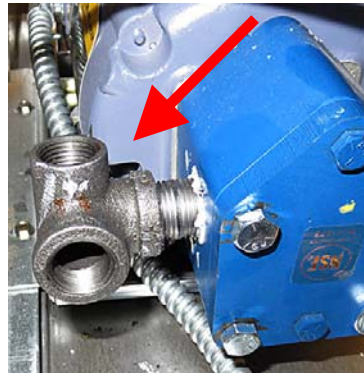

Figure 38
37. Apply Loctite and insert 1½" nipple (8130087) into the 90° elbow with outlet (8130331) and tighten and orient as shown (see Figure 38).